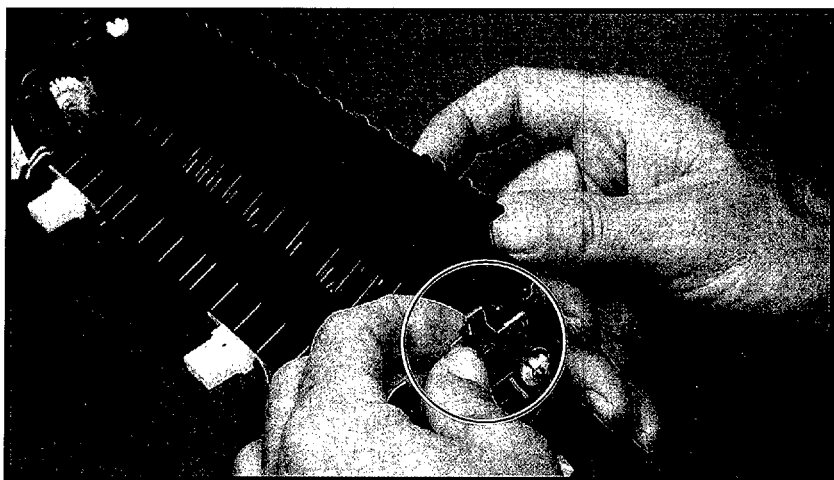

Figure 6-30 Removing the Fuser Delivery Assembly
1. Pull out gently on the metal frame on either end of the Delivery Assembly to release the mounting pins. Lift the assembly out (Figure 6-30).